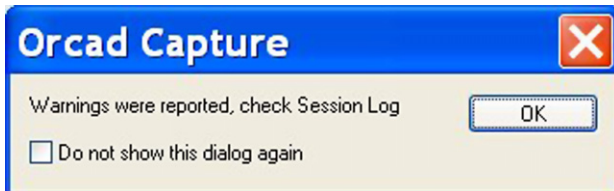

FIGURE 2.18
2. Delete the 0V volt symbol and resimulate. A warning message will appear (Figure 2.18) asking you to check the session log, which is normally open at the bottom of the screen in Capture.